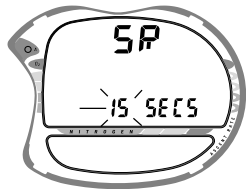

Fig. 38 - Set Sampling Rate
- The graphics SR and SECS (or FEET/METERS) appear with the Sampling Rate **value** flashing (Fig. 38).